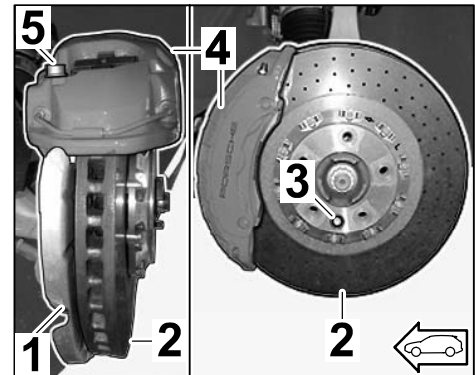

Figure 7
2.3.1 Fit new cover plate (left/right) on each wheel carrier (left: ⇒ Figure 7 /right) using a new M6 x 16 screw (4 x).